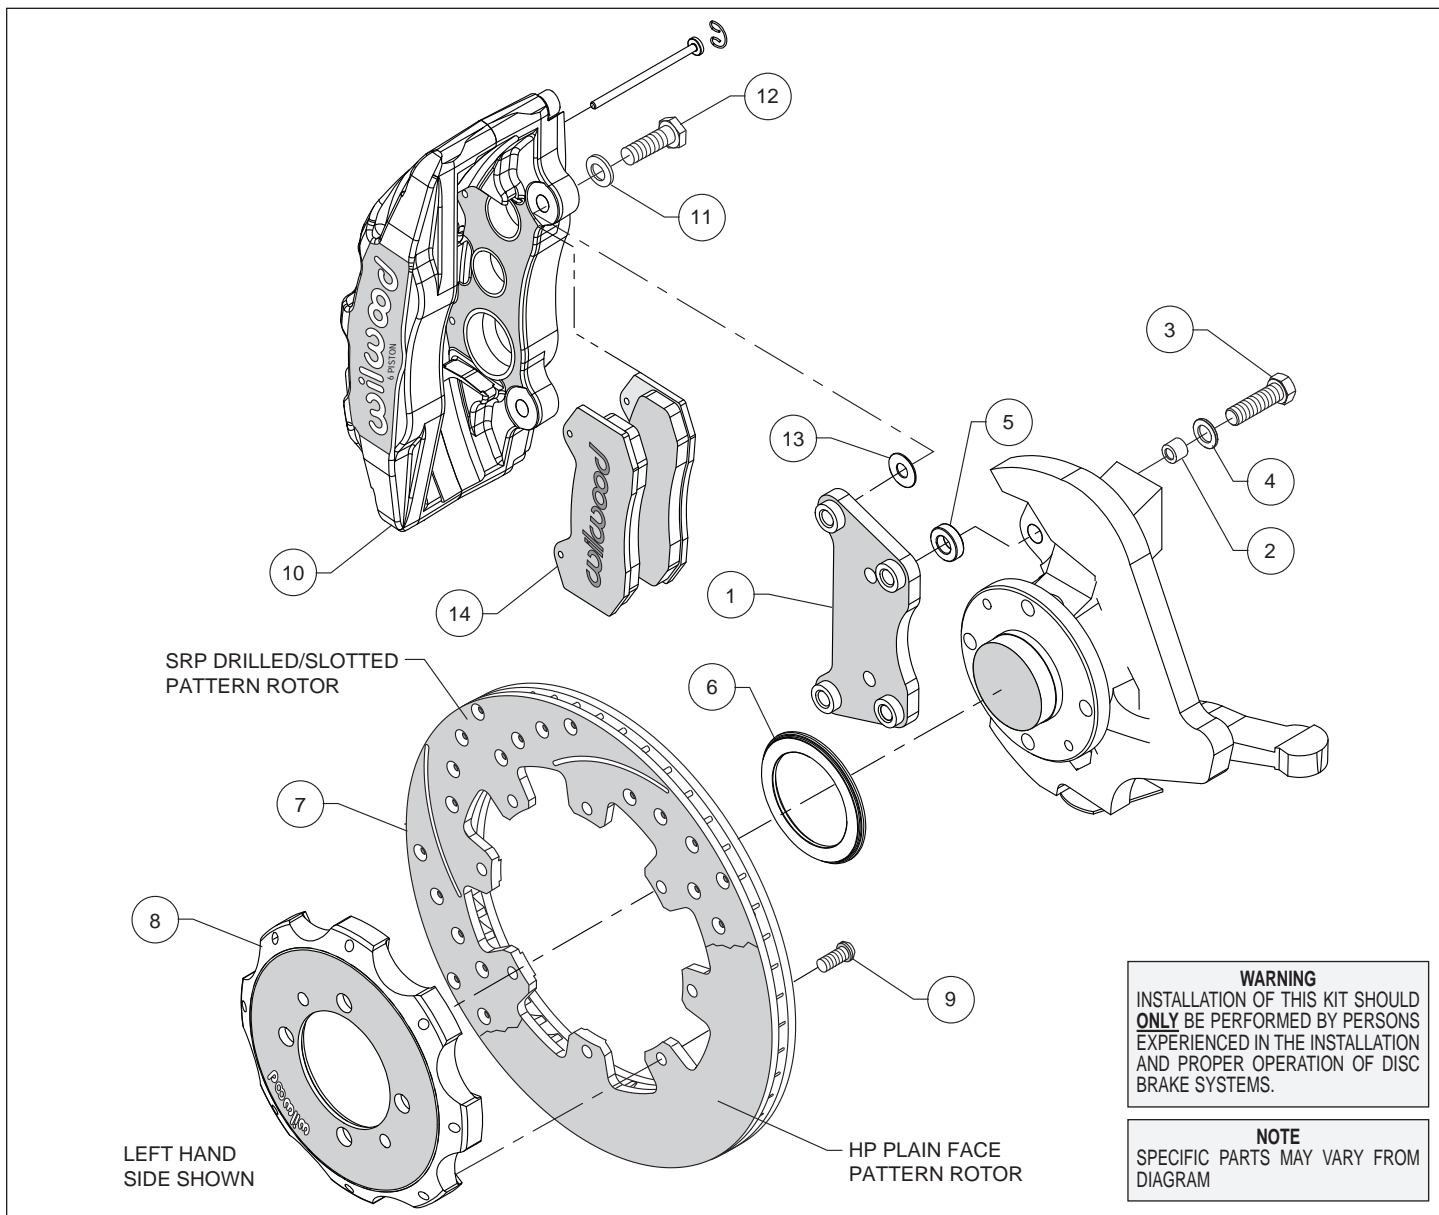
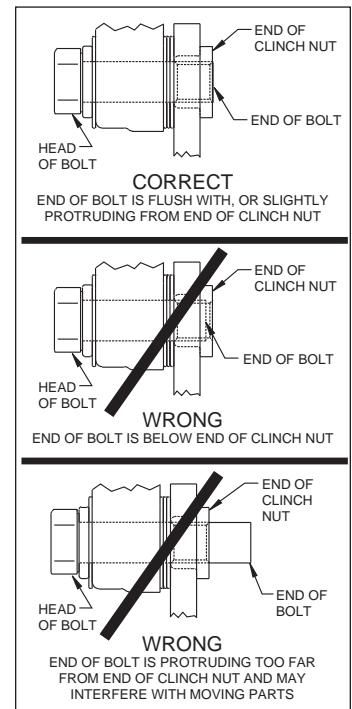

Figure 1. Typical Installation Configuration
Figure 3. Clinch Nut Engagement Diagram
Assembly Instructions (numbers in parenthesis refer to the parts list and Figure 1 on the preceding pages): **CAUTION:** All mounting bolts must fully engage clinch nuts. Be sure to check that all bolts are either flush or protruding through flanged side of clinch nut after shimming, Figure 3.
- Orient the caliper mount bracket (1) as shown in Figure 1 and Photo 1, and install using bolts (3), washers (4), and spacers (5). Insert one sleeve (2) into each of the holes in the spindle “ears” where the Original Equipment Manufacturer (OEM) caliper bracket was removed. Place the spacer between the OEM mounting ears and the bracket, Figure 1. Ensure that the flanged heads of the clinch nuts in the bracket are facing outboard, Photo 1. Temporarily tighten the mounting bolts. **NOTE:** The bracket must fit squarely against the mount bosses on the upright. Inspect for interference from casting irregularities, machining ridges, burrs, etc. Remove bolts one at a time, apply red *Loctite*® 271 to the threads and torque to 60 ft-lb.
- Orient the rotor (7) and the hat (8) as shown in Figure 1 and Photo 2. Attach rotor to hat using bolts (9). Using an alternating sequence, apply red *Loctite*® 271 to the threads, and torque to 25 ft-lb.
- Slide the rotor registration adapter (6) onto the axle register on the axle hub with the smaller O.D. facing toward the rotor/hat (7/8), Photo 3. Align the two locating holes in the hat to the hub and slide the hat/rotor assembly onto the hub, Photo 4. **NOTE:** The hat must fit flush against the hub flange or excessive rotor run out may result. Install the two stock hat locator bolts and torque to OEM specifications.
- **NOTE:** Please reference the caution statement at the beginning of the assembly instructions. This kit contains distinct right and left hand calipers that must be mounted in a specific direction, as described below. Mount the caliper (10) onto the caliper mounting bracket (1) using bolts (12) and washers (11), as shown in Figure 1. Initially place one .035" thick shims (13) on each bolt between the caliper and the bracket, Photo 5. Ensure that the caliper is mounted so the largest pistons are at the rotor exit end of the caliper, in relation to the direction of rotor rotation. Temporarily tighten the mounting bolts and view the rotor (7) through the top opening of the caliper. The rotor should be centered in the caliper, Photo 6. If not, adjust by adding or subtracting shims between the bracket and the caliper. Always use the same amount of shims on each of the two mounting bolts. **NOTE:** The end of each bolt must be flush with or slightly protruding from the head of the clinch nut, as shown in Figure 3. If necessary place spare shims between washer (11) and caliper mounting ear to achieve the proper clinch nut engagement. Once the caliper alignment and clinch nut engagement are correct, remove the mounting bolts and caliper.
- Remove the two pad retaining pins from the caliper (10) by carefully popping out the pin retaining clips and sliding out the pins. Insert the brake pads (14) into the caliper from the bottom, Figure 1 and Photo 7, with the friction material facing the rotor. Secure the brake pads in place with the pad retaining pins and